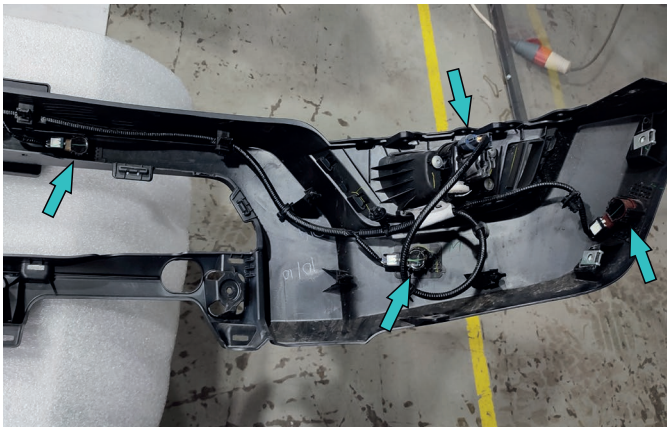

Fig.21
21. Disconnect electronic connectors on both sides of the factory bumper (fig.21).